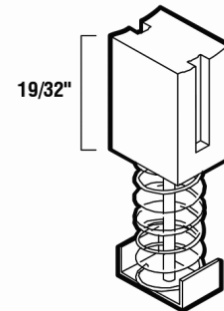

FIGURE 17
3. Measure the length of the carbon brushes. Install the new set of carbon brushes if either carbon brush length is worn down to 19/32” (0.9375”) or less (Fig.17). Reinstall the old carbon brushes (in their original orientation) if your carbon brushes are not worn down to 19/32” or less. Both carbon brushes should be replaced at the same time.
4. Once carbon brushes are installed, secure them with the carbon brush covers (A).